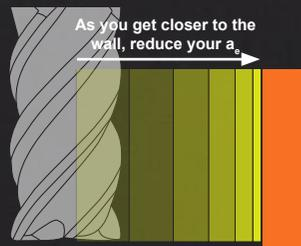

Fig. 5 - Radial DOC (a_e) Strategy
- **Radially** - Figure 5 shows the variable radial depth-of-cut method, which is essential when there is nothing on the other side of the wall. As we approach the wall, the cutting pressure decreases proportionally to the decreasing radial depth of the cut (a_e). Our objective is to reduce the pressure as we approach the wall, but we can compensate by increasing the feed rate due to chip thinning (refer to page 88 for further details). There will undoubtedly be a balance here, but at least you now have some additional knowledge.